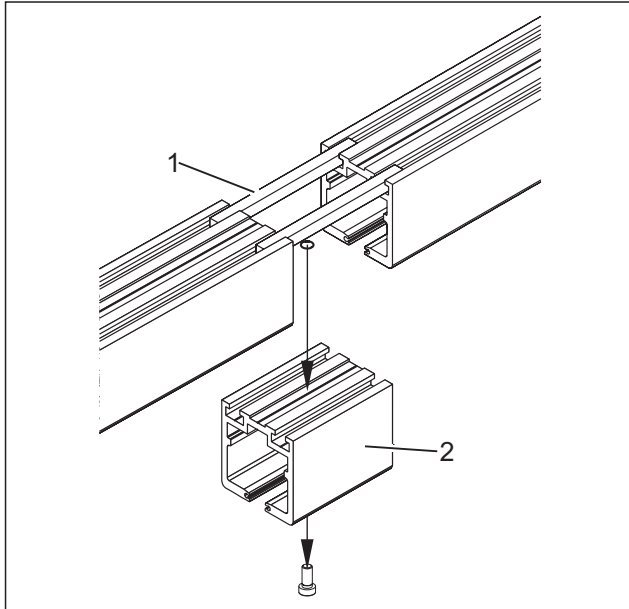

Fig. 44 Removing the revision piece
- Remove the revision piece (Fig. 44/2) by loosening the screw and removing the set screw (Fig. 44/1).